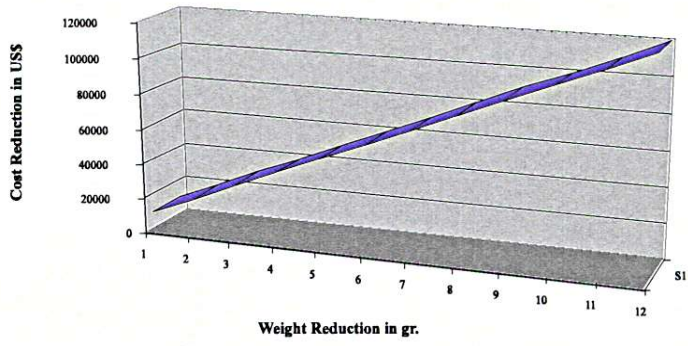

Figure 1
- Lower density results in reduced weight and cost savings (see Figure 1)